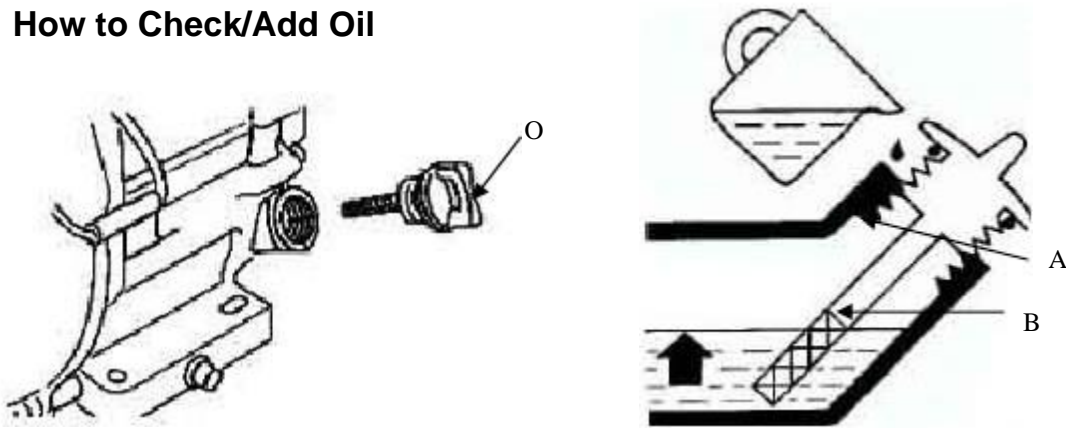

Figure 1
1. Remove the dipstick (O) and swipe with a clean cloth (Figure 1).
3. Remove the dipstick and check the oil level. Make sure the oil is at the FULL mark (B) on the dipstick.
4. To add oil, pour the oil slowly into the engine oil fill (A). **Do not overfill.** After adding oil, wait one minute and then recheck the oil level.